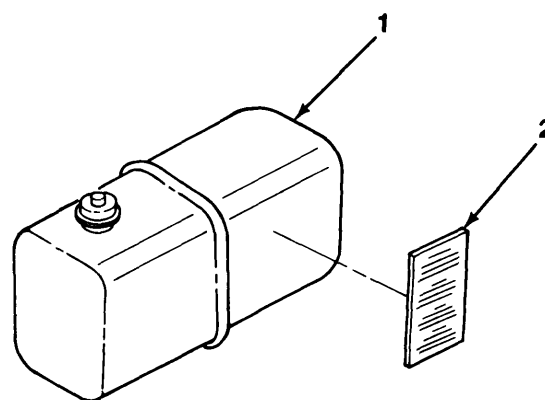

Figure 12-1. Data Plate Replacement.
- Refer to Figure 12-1, *Data Plate Replacement*.